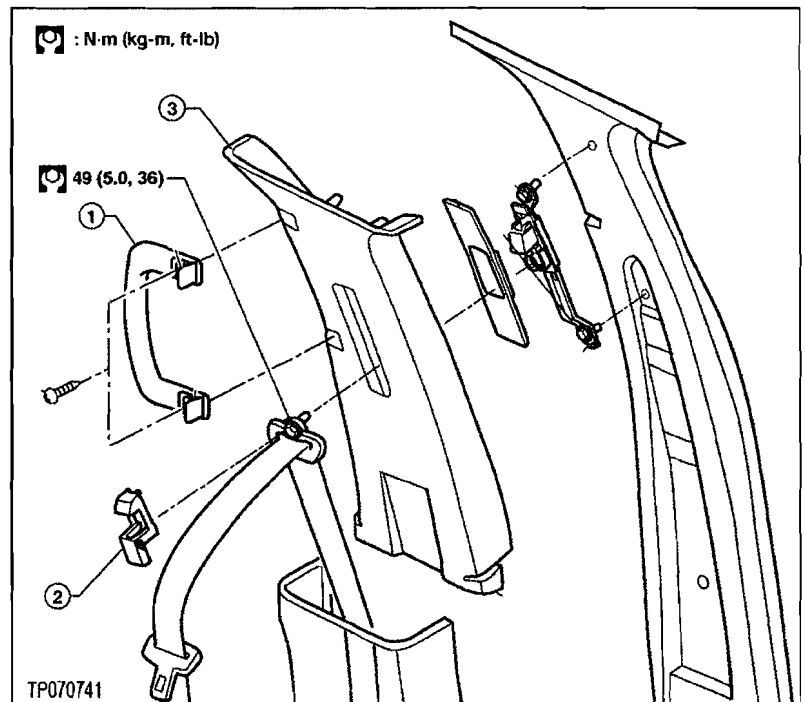

Figure A34
- Remove the following items from the right side center pillar; refer to Figure A34: